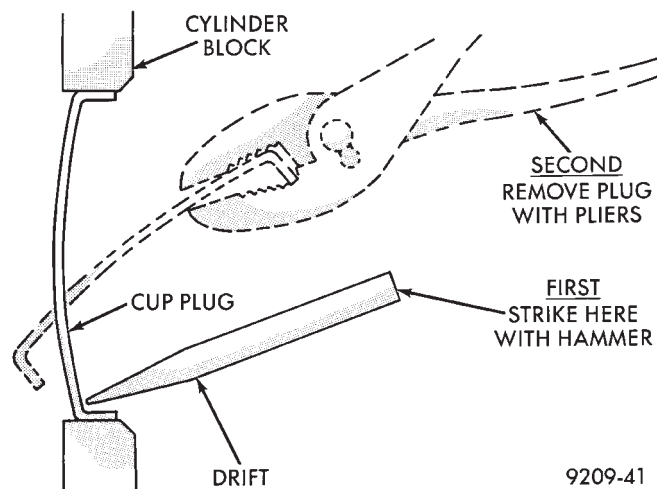

Fig. 48 Core Hole Plug Removal
(1) Using a blunt tool such as a drift or a screwdriver and a hammer, strike the bottom edge of the cup plug (Fig. 48).
(2) With the cup plug rotated, grasp firmly with pliers or other suitable tool and remove plug (Fig. 48).